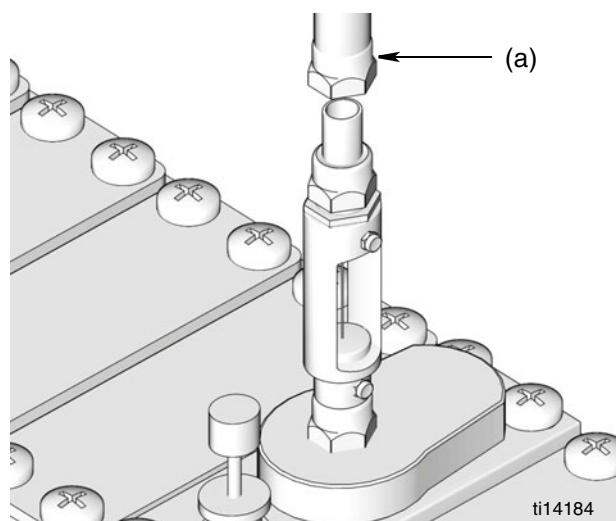

FIG. 2
3. Disconnect fluid lines (a) from pump (FIG. 2).